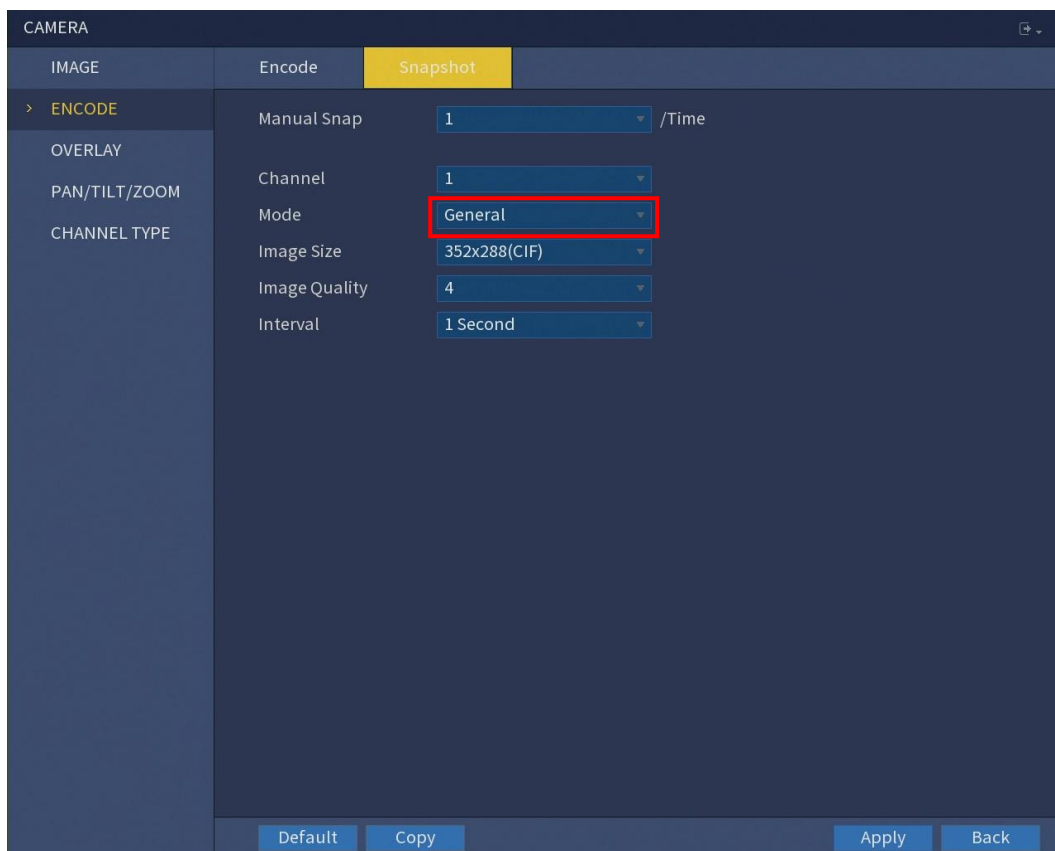

Figure 5-60
5. In the **Mode** list, select **General**, and then configure other parameters. See Figure 5-60.